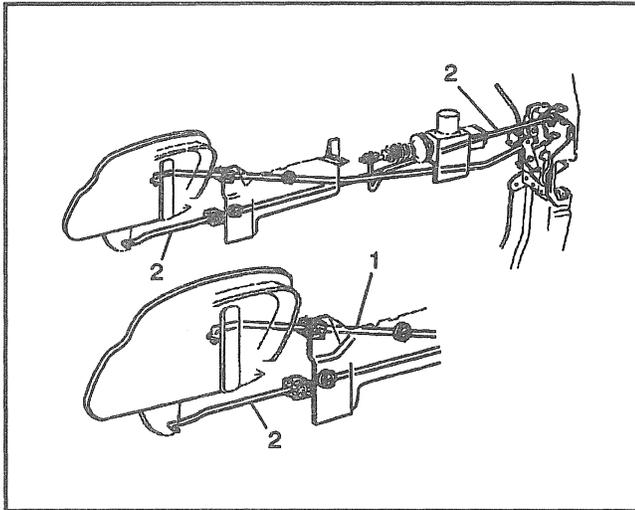

Figure 68—Rear Door Inner Handle Control Rods
4. Inside handle control rod (1) from the handle and lock lever assembly (Figure 68).
5. Inside lock control rod (2) from the handle and lock lever assembly (Figure 68).